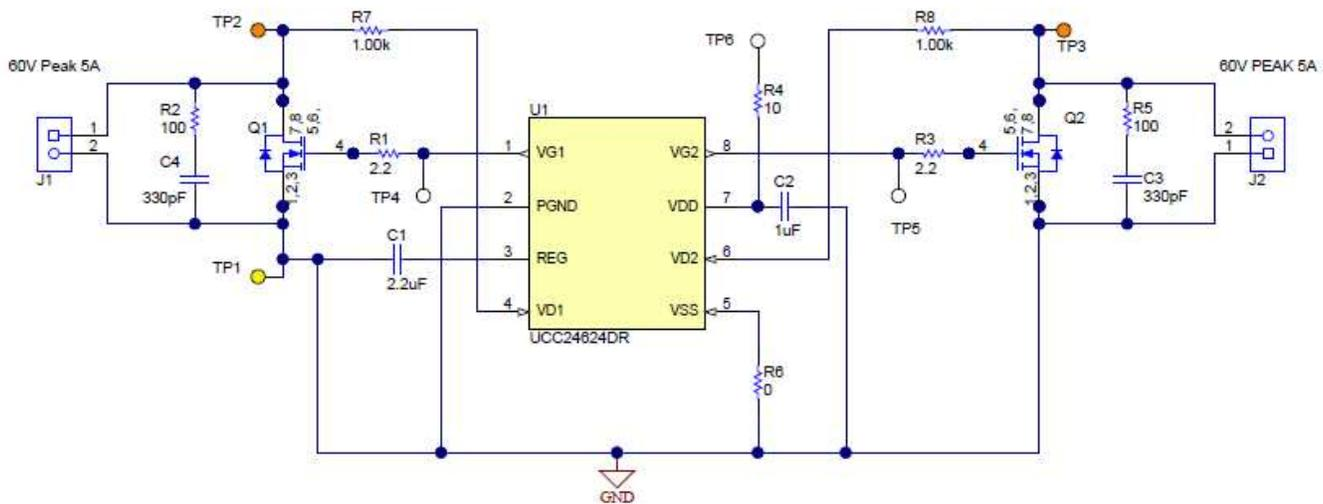

Figure 3. UCC24624EVM-015 Schematic
Six test points and two terminal blocks provide access to several important nodes in the SRs control circuit. Refer to the schematic diagram of the UCC24624EVM-015 in figure 3 for test points and terminal block connections .
• Changed Figure 3 .....	<a href="#">4</a>